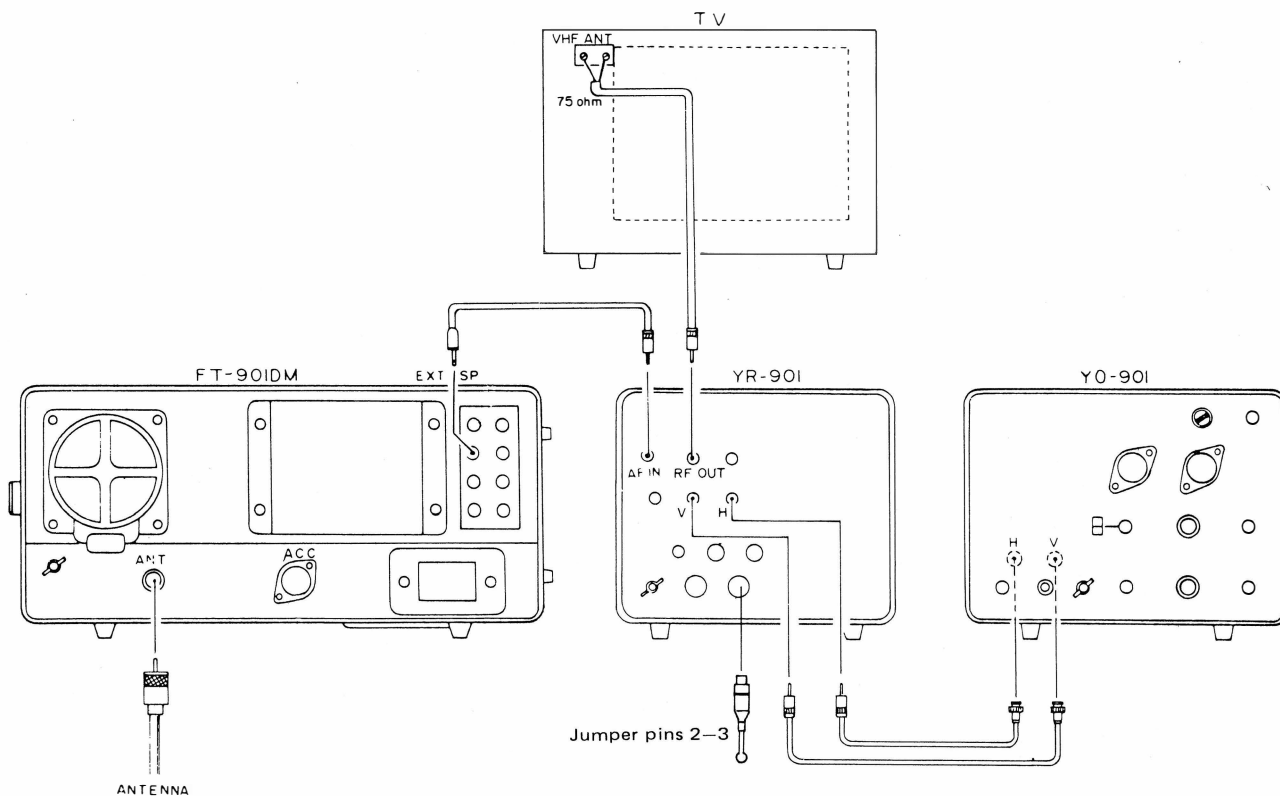

Fig. 7 FT-901DM/YR-901/YO-901/TV
- (1) Set up the YR-901 and station equipment as shown in Figures 5 and 6. If it is desired to use a monitor scope such as the YO-901, Multi-scope for cross pattern monitoring of the RTTY signal, please refer to Figure 7 for interconnection details.
- (2) Preset the controls and switches as follows: